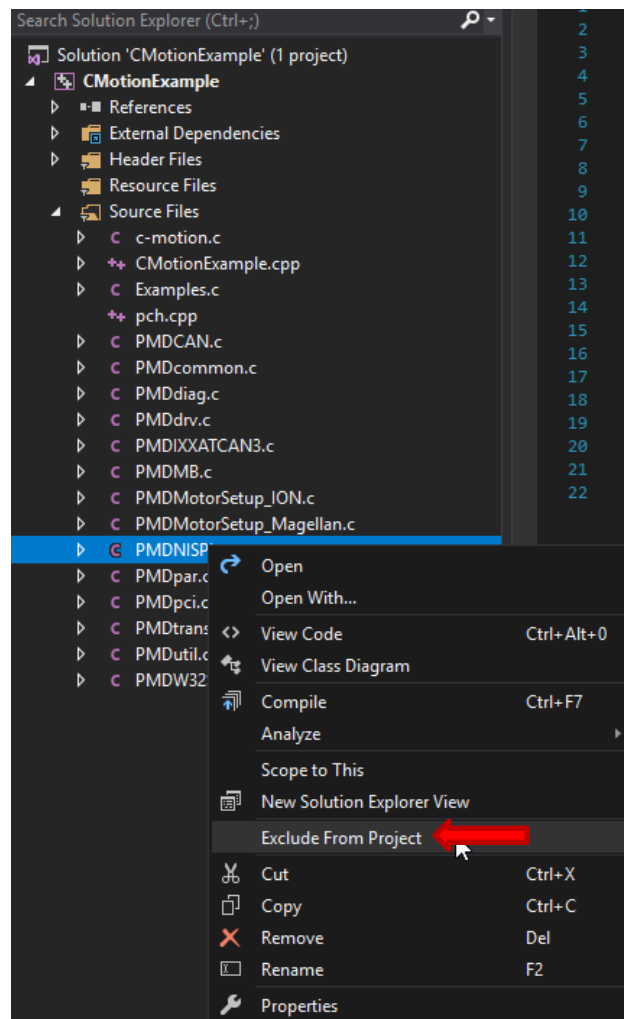

Figure 54 – VS2017 Removing Uninstalled Dependencies
- 6) Exclude the .c files that have uninstalled dependencies or required devices. The following interfaces have device specific driver requirements and will not compile unless those drivers are installed. See Figure 54 – VS2017 Removing Uninstalled Dependencies